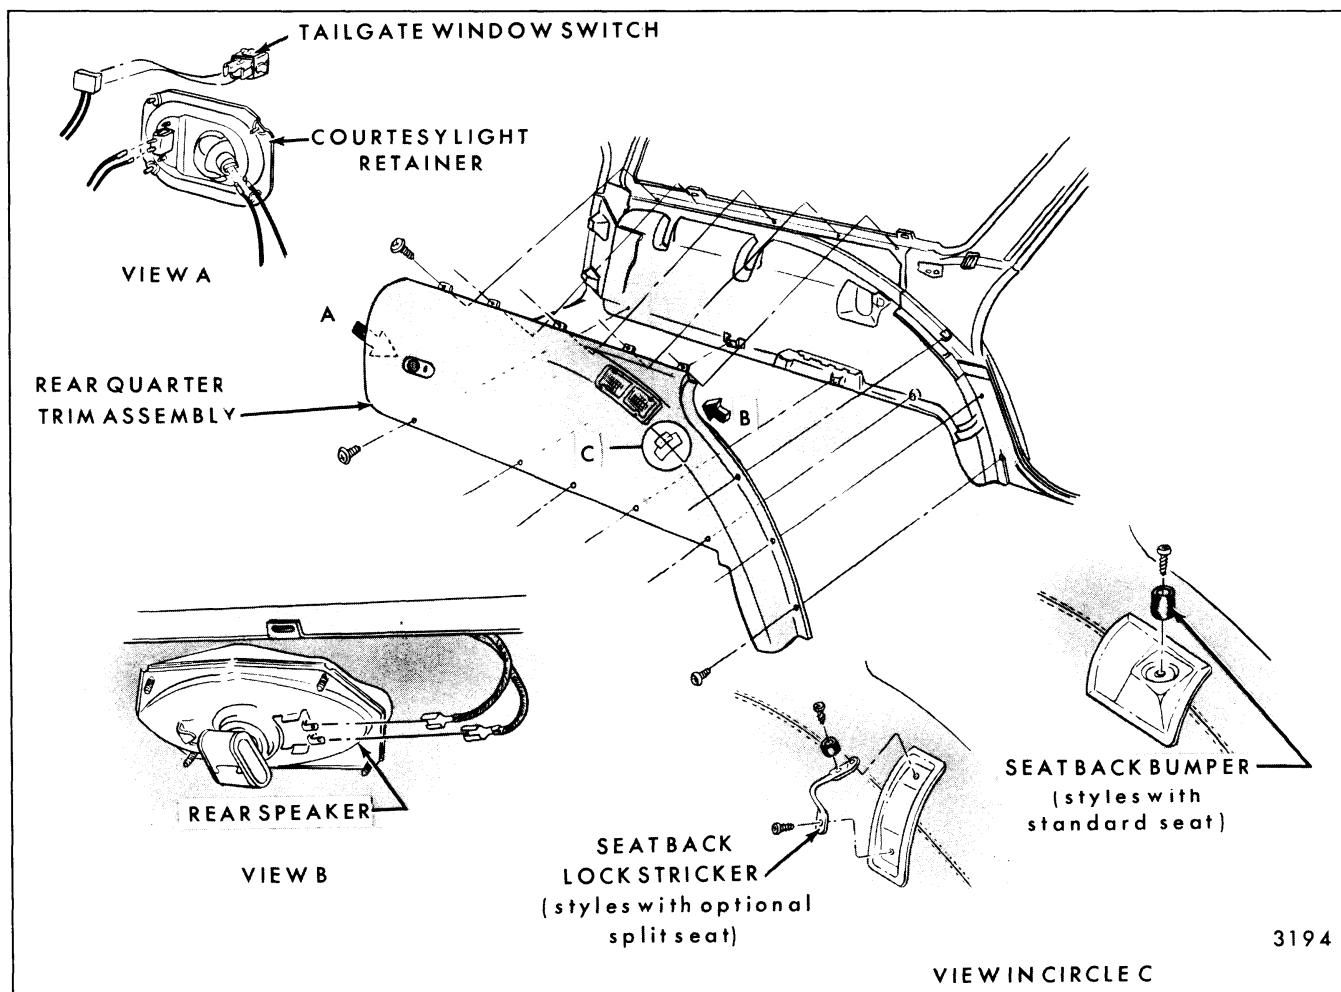

Fig. 6-18-Wheelhouse Trim Cover Panel (Left Side) - "B" Station Wagon Styles
2. On styles with optional split seat, remove seat back bumper or seat back lock striker (Fig. 6-18).
4. Remove attaching screws from perimeter of trim cover panel as shown in Figure 6-18.